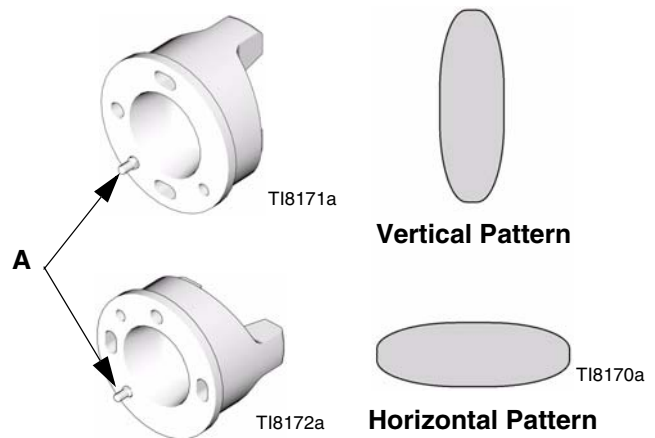

Fig. 11: Position Air Cap
Air caps are factory-set with the alignment pin (A) set to a vertical spray pattern. To change the air cap to a horizontal spray pattern, use a needle nos pliers to unscrew the alignment pin (A) and relocate it to the horizontal spray pattern hole. When relocating the pin use low strength thread locker. Torque to 1.5-2.5 in-lb (0.2-0.3 N•m). **Do not overtighten.** Refer to FIG. 11.